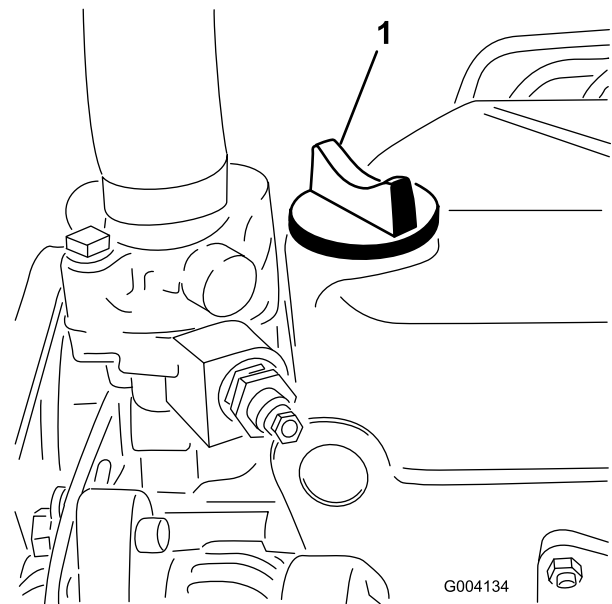

Figure 34
5. If the oil level is below the Full mark, remove the fill cap (Figure 34) and add oil until level reaches the Full mark on dipstick.